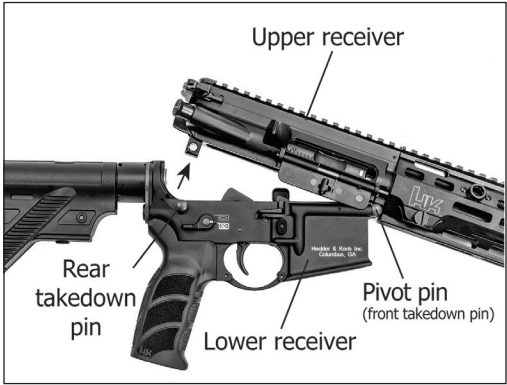

Fig. 40 – Closing Upper and Lower Receiver
- c. Mount the lower receiver to the upper receiver. Drift the pivot pin from right to left until the pin reaches its limit of lateral travel. The tip of the pivot pin should be visible on the left-hand side of the lower receiver (Fig. 40).